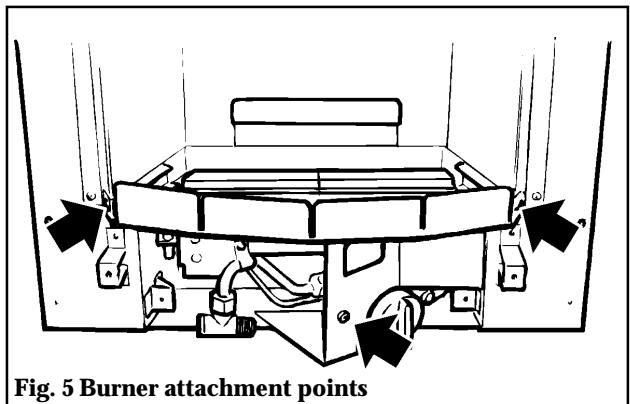

Fig. 5 Burner attachment points
**6.2** Detach the burner unit from the convection box by removing three screws (see figure 5). Lift the burner unit clear.